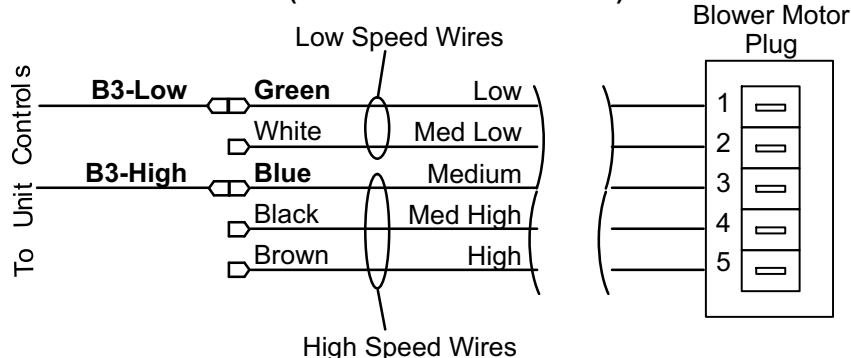

FIGURE 13
- 3- Use figure 12 to determine the factory set blower speed(s) for standard efficiency units and figure 13 for high efficiency units.
If low speed CFM is lower than the design specified CFM, move the lead marked **B3-Low** from the green wire to the white wire. See figure 13. If high speed CFM is lower than the design specified CFM, move the lead marked **B3-High** from the blue wire to the black (med. High) or brown (high) wire. Refer to table 1 for minimum airflow when electric heat is installed.